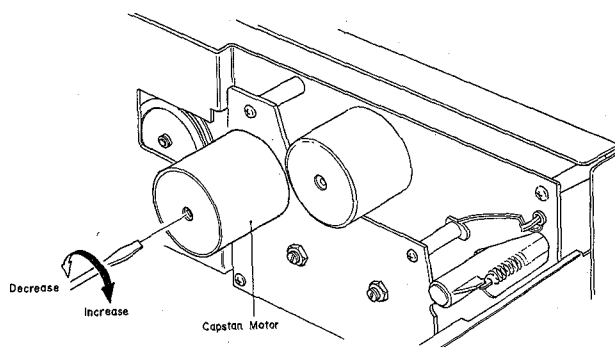

Fig. 5.3
- (1) Remove the Top Cover.
- (2) Connect a Frequency Counter to the Output Jack.
- (3) Load a 3 kHz Speed Wow/Flutter Tape (DA09006A) and play it back.
- (4) Referring to Fig. 5.3, adjust the Tape Speed Adjustment Volume (VR501) incorporated in the Capstan Motor to obtain 3,000 Hz on the Frequency Counter.